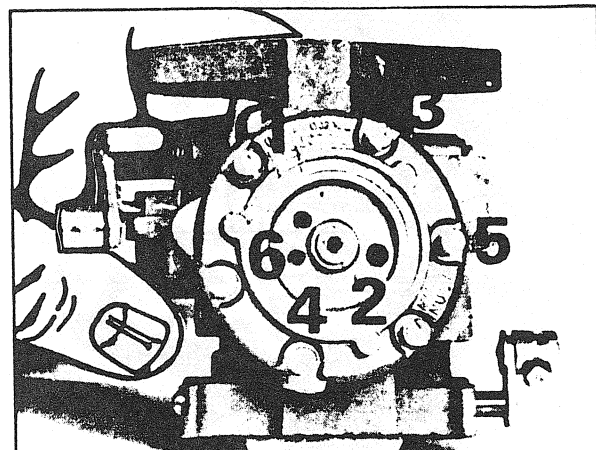

FIGURE 14
■ Screw in the six (6) body screws according to the following sequence. (Fig. 14).